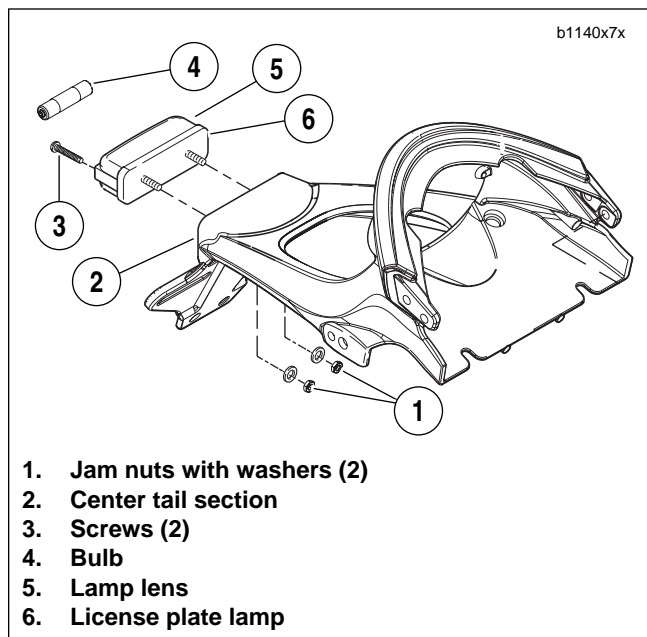

Figure 7-56. License Plate Lamp
See Figure 7-56. If replacing bulb only, remove both lamp lens screws (3), remove lamp lens (5) and remove bulb (4). Replace bulb and install lens and tighten screws.